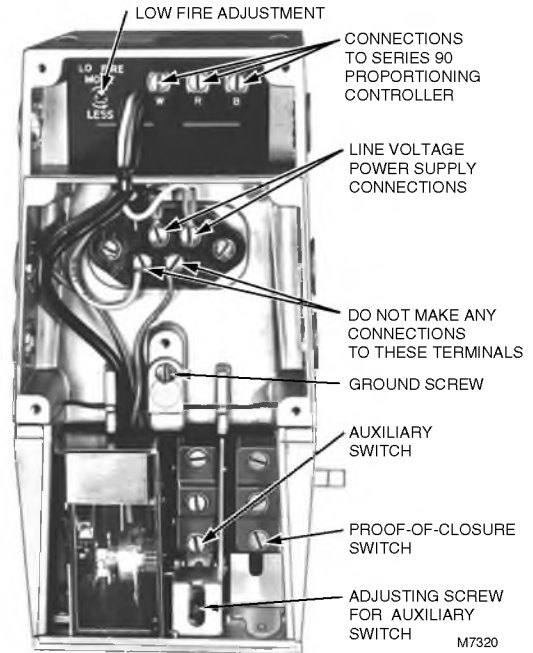

Fig. 3. Internal components and connections in V9055.
3. Insert the auxiliary switch in the position indicated in Fig. 3. Fasten with two screws through the actuator base.
4. Insert the proof-of-closure switch in the position shown in Fig. 3. The proof-of-closure switch mounts against the side of the actuator housing. The mounting holes are spaced to mount the switch only in the correct position. Fasten with two screws through the actuator base.
Connect power supply to terminals 1 and 2 on the terminal strip. Do not make any connections to the unmarked terminals shown in Fig. 3.
The auxiliary switch is adjustable throughout the stroke of the actuator. With the switch installed in the actuator, turn the adjusting screw (Fig. 3) clockwise  to cause the switch to operate earlier in the stroke and counterclockwise  to operate later in the stroke.